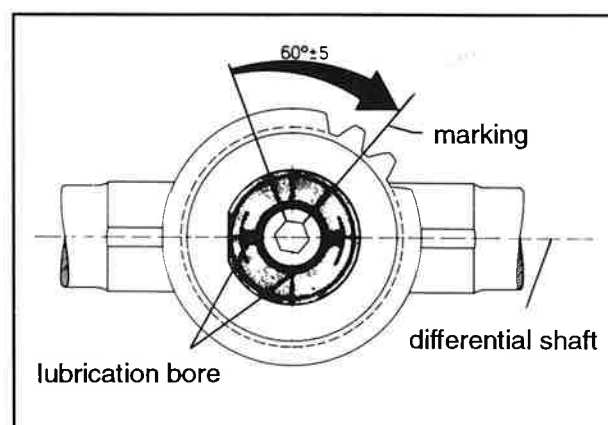

Fig. 4
- Press in differential bolts with planetary wheel and floating bush (1/3) into differential shaft (3) so that lubricating bores of differential bolts are in parallel position to longitudinal axis of differential shaft, see fig. 4.